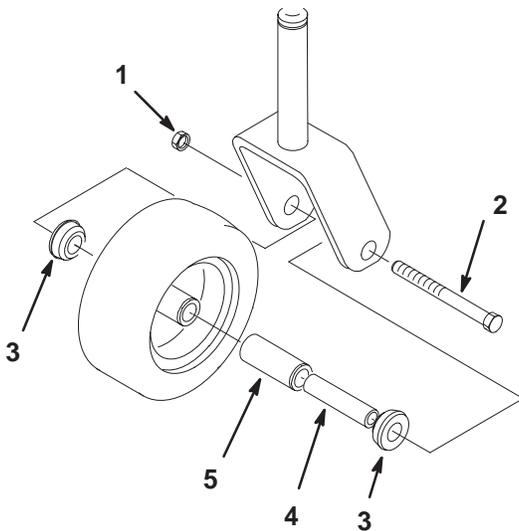

Figure 68
1. Remove the locknut and wheel bolt holding the caster wheel to the caster fork (Fig. 68).
2. Remove one bushing, then pull the spanner bushing and roller bearing out of the wheel hub (Fig. 68).
3. Remove the other bushing from the wheel hub and clean any grease and dirt from the wheel hub (Fig. 68).
4. Inspect the roller bearing, bushings, spanner bushing and inside of the wheel hub for wear. Replace any defective or worn parts (Fig. 68).
- To assemble, place one (1) bushing into the wheel hub. Grease the roller bearing and spanner bushing and slide them into the wheel hub. Place the second bushing into the wheel hub (Fig. 68).
- Install the caster wheel into the caster fork and secure with the wheel bolt and locknut. Tighten the locknut until the spanner bushing bottoms against the inside of the caster forks (Fig. 68).